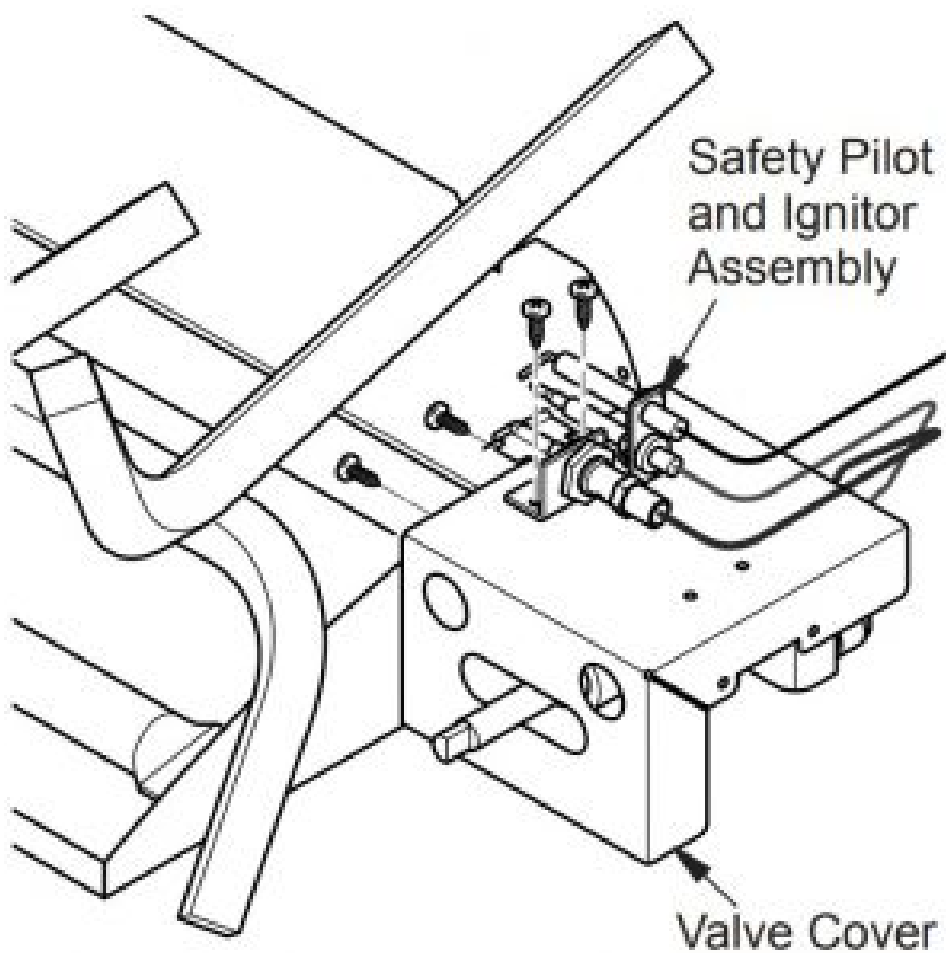

Figure 4A
6. Install valve cover to burner pan using self tapping screws as shown in Figure 4A. FOR GLASS BURNER MODELS ONLY Install baffle panel and valve cover to burner pan using self tapping screws as shown in Figure 4B.
7. Install safety pilot and piezo ignitor onto baffle panel using self tapping screws as shown in Figure 4A and 4B.